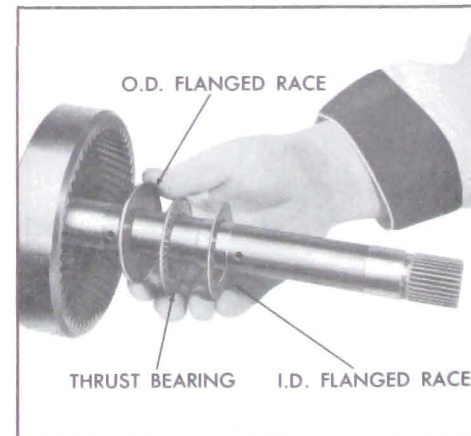

Figure 5-691A
3. Install the sun gear to internal gear thrust races and bearings against the inner face of the rear internal gear as follows, and retain with petrolatum. See Figure 5-691A.